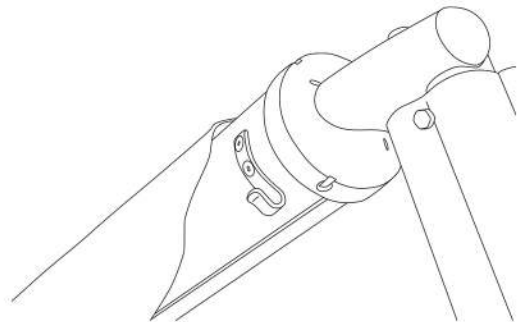

Figure 2. Roller Bracket Position
- 2.1. For Dometic Awnings mount the roller bracket on the roller tube between the valance and the bottom slot of the roller and $\frac{1}{2}$ " from the canopy. Mark the mounting holes on the roller. Using a $\frac{3}{16}$ " drill bit pre drill the holes and mount the bracket using the pop rivets provided. (Refer to Figure 2)